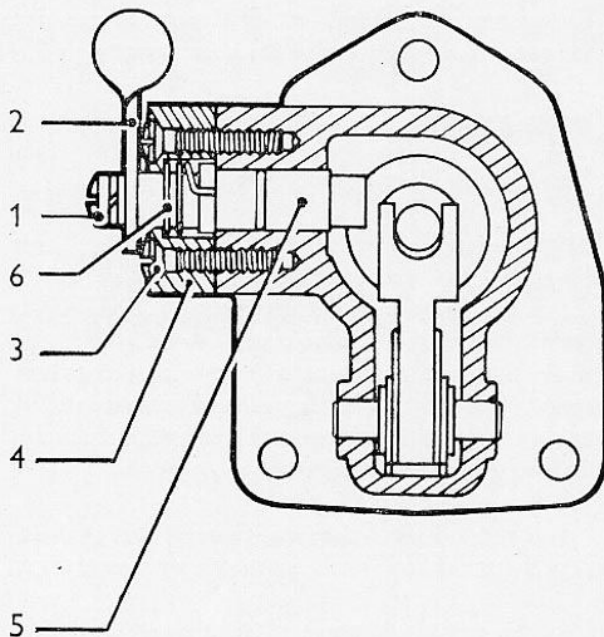

FIG. 2. SECTION THROUGH HAND PRIMING LEVER
Detach screw (1) (Fig. 2) and lock washer to release priming handle (2). Unscrew two screws (3) and remove stop plate (4). Priming spindle (5) and its spring may then be withdrawn.